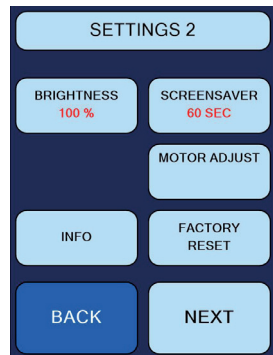

Fig. 18
- Press **SETTINGS** at the main screen, at the following „Settings 1“-screen **NEXT** and at the „Settings 2“-screen (Fig. 18, line 3) **MOTOR ADJUST**.